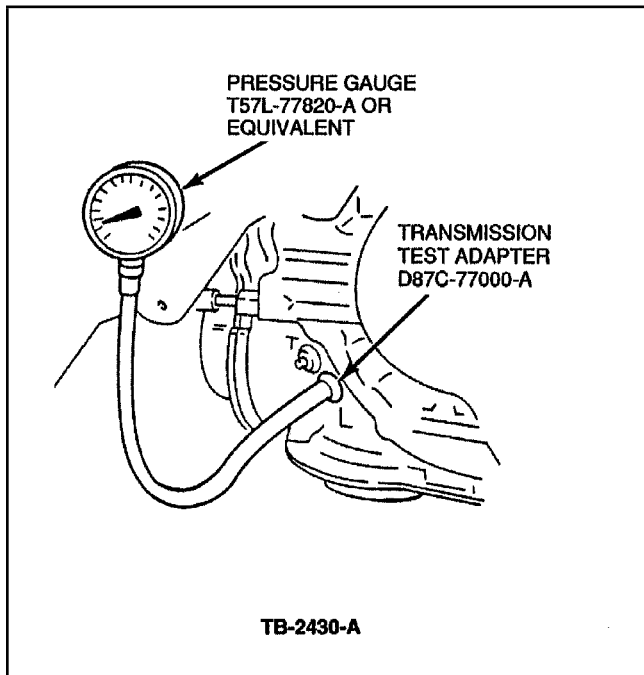

Figure 2 - Article 91-25-6
3. Remove the square head plug (marked "L") and installed Transmission Test Adapter D87C-77000-A or equivalent and Pressure Gauge T57L-77820-A. Refer to figure 2.